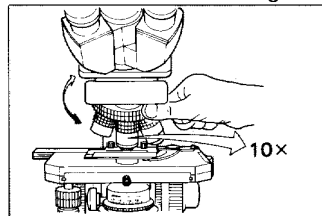

Fig. 3-4
- 4) Revolve the revolving nosepiece to put the 10X objective into the optical path. Properly turn the revolving nosepiece so it fits into position (Fig. 3-4).